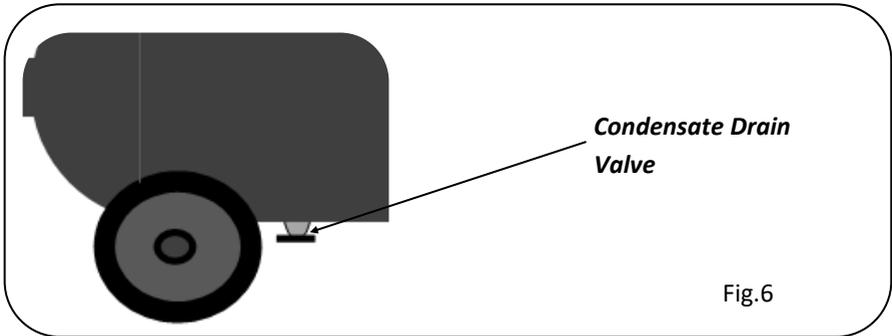

Fig.6
1. Ensure that the condensate drain valve is closed on the tank. Fig.6
4. Open the tank drain valve to allow condensate to drain (Fig.6). Collect and dispose of according to local regulations. You may need to tip the tank to remove all the condensate.
- **Drain the tank / air receiver (Fig.6).** (Refer to page 15)